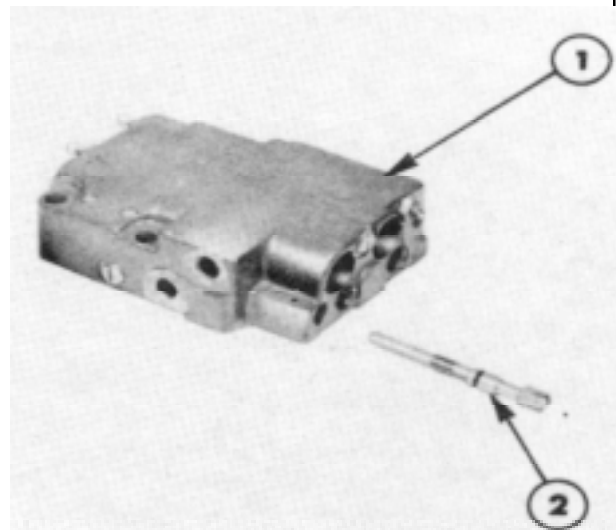

Figure 16
2. Unscrew the float valve assembly from the remote control valve body, Figure 16.